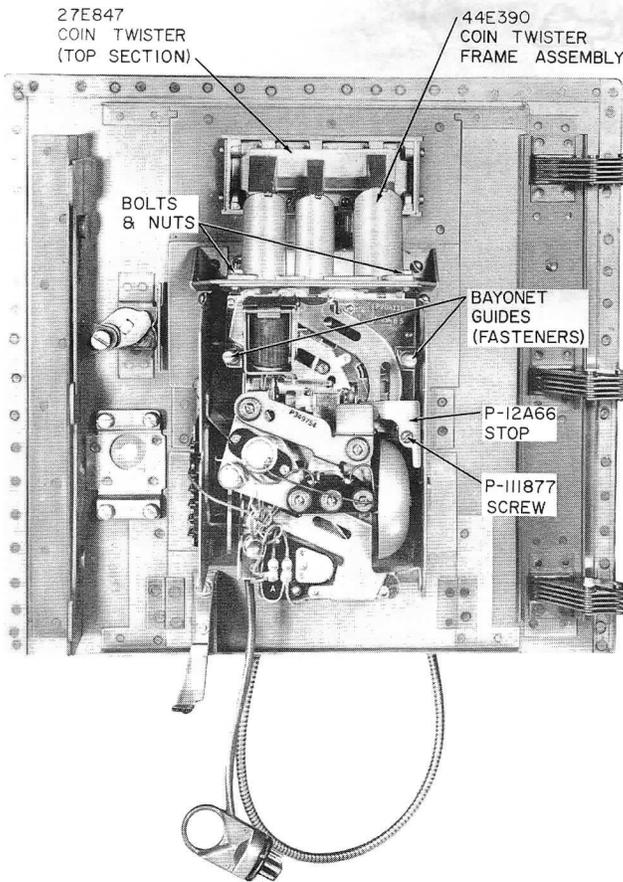

Fig. 5 — Location of Mounting Hardware for Coin Chute and Twister Assembly
- (1) Loosen screws in middle of twister assembly (Fig. 5).
- (2) Lift P-27E847 coin twister (top section) up and out.
- (3) Remove screws and nuts holding P-44E390 coin twister frame assembly (Fig. 5).
- (4) Lift frame assembly out.
- (5) Replace by reversing the removal procedure.
- (1) Loosen two P-11E183 bayonet guides (fasteners) on coin chute (Fig. 5).
- (3) Remove screw and P-12A66 stop (Fig. 5).
- (4) Remove wires.
- (5) Remove coin chute.
- (6) Replace by reversing the removal procedure.